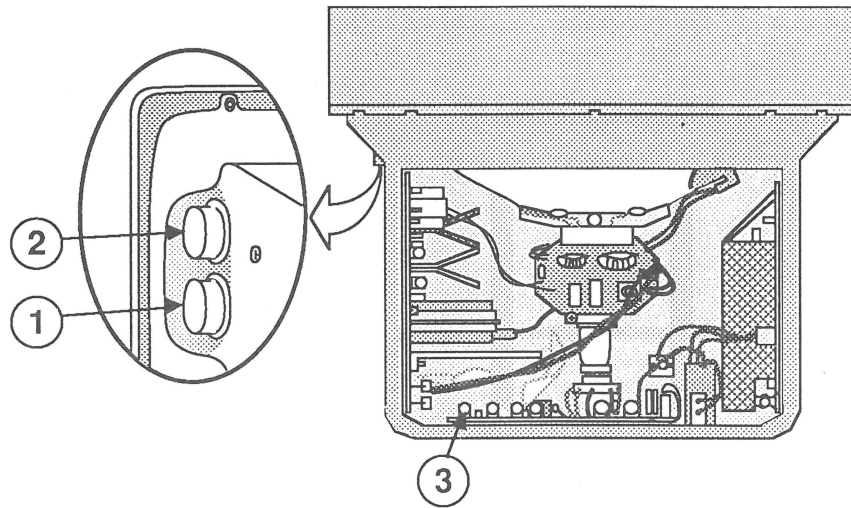

FIGURE 14
2. Set the external CONTRAST control (Figure 14, #1) on maximum (full clockwise).
3. Set the external BRIGHTNESS control (Figure 14, #2) at its center click ("detent") position. To locate the detent position, turn the knob fully clockwise, then counterclockwise. The place in the middle where the knob hesitates is the detent position.
4. Using a plastic alignment tool, set the CUTOFF control (Figure 14, #3) on minimum (full counterclockwise). **Turn the power on and wait 20 minutes for the monitor to warm up.**
5. Using a plastic alignment tool, turn the CUTOFF control (Figure 14 #3) clockwise until a white raster just appears, then turn counterclockwise until the raster just fades to black.
8. Using a plastic alignment tool, adjust the CUTOFF control (Figure 14, #3) so that the first bar on the left is solid black and the second bar on the left is dark gray. (The second bar from the left should be just slightly brighter than the first bar.) The cutoff is now properly set.